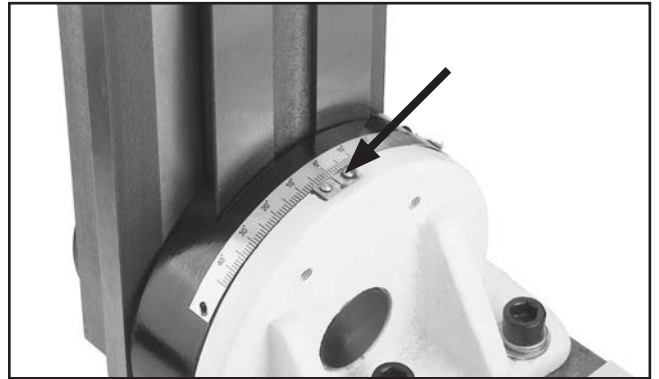

Figure 6. Mill/drill swivel scale aligned with hub indicator line in the “0” position.
4. Align the indicator on the mounting bracket with the “0” line on the mill/drill swivel scale, as shown in **Figure 6**.